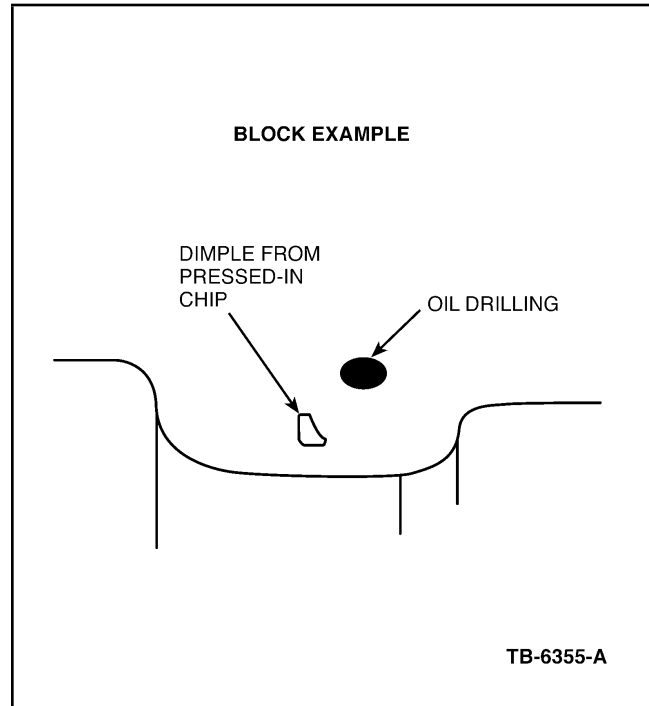

Figure 1 - Article 01-12-2
4. Inspect for the dimples and impressions. (Figures 1 and 2).